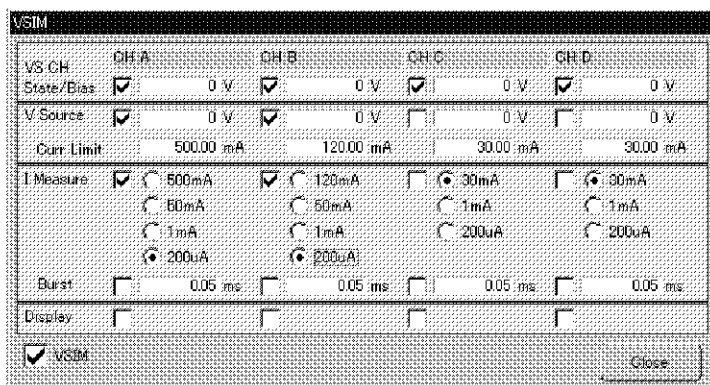

Figure 10-3 Receiving the EGSM
2. Set channels A and B as shown in Figure 10-3 according to the settings in Table 10-3.